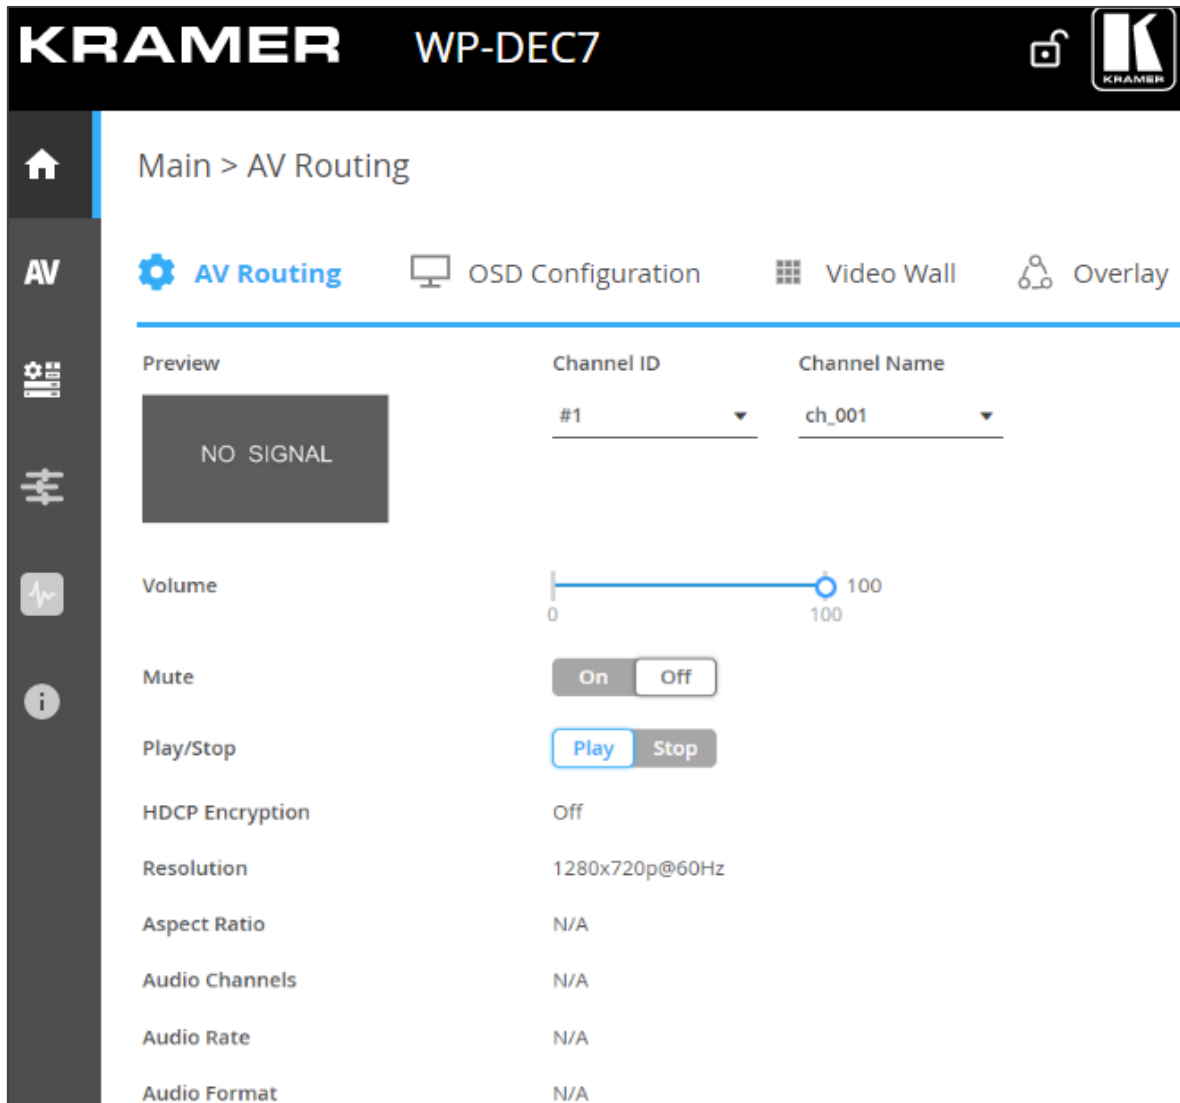

Figure 10: Device Control Page with Navigation List on Left
1. In the Navigation pane, Select **Main>AV Routing**. The AV Routing page appears (see Figure 10).
- 1. In the Navigation pane, Select **Main>AV Routing**. The AV Routing page appears (Figure 10).